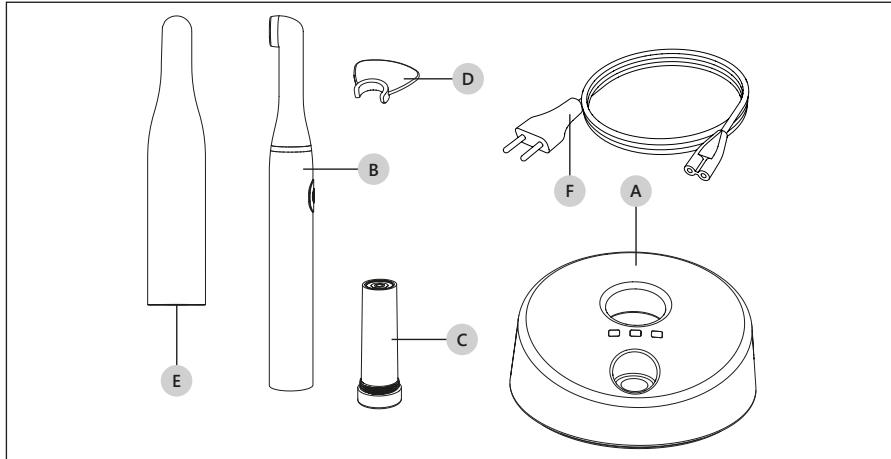
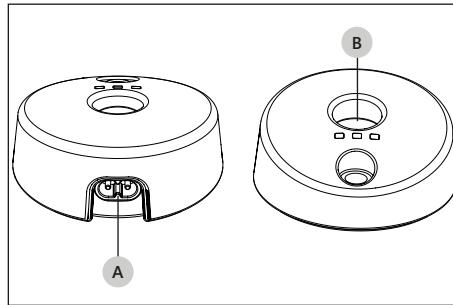

Figure 5 – List of Components
Figure 6 – Charging unit.
⚠ CAUTION: Recharge the battery only with the Mectron charging unit (Figure 5 at page 8 - Ref. A). Do not attempt to recharge the battery using a generic battery charger. This entails a risk of explosion and fire.
Refer to Figure 5 at page 8:
⚠ WARNING: Do not introduce metal objects into the handpiece housing in the charging unit (Figure 6 at page 10 - Ref. B) when the device is on.
2. Plug the power cable (Figure 5 at page 8 - Ref. F) into the connector on the back side of the charging unit (Figure 6 at page 10 - Ref. A) and then into the power outlet. The green power LED should light up (Table 1 at page 11 - Ref. A).
1. Place the handpiece into its housing in the charging unit (Figure 6 at page 10 - Ref. B). The yellow battery LED will light up (Table 1 at page 11 - Ref. B).
1. Place the handpiece into its housing in the charging unit (Figure 6 at page 10 - Ref. B). The yellow battery LED will light up (Table 1 at page 11- Ref. B).
❗ CAUTION: Recharge the battery only with the Mectron charging unit (Figure 5 at page 8 - Ref. A). Do not attempt to recharge the battery using a generic battery charger. This entails a risk of explosion and fire.